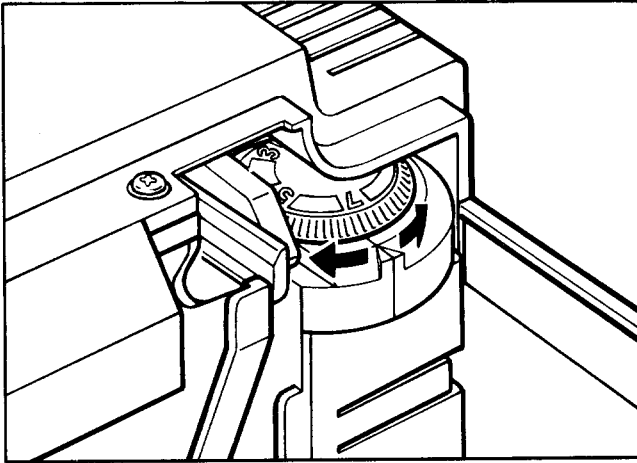

Fig 6-5
- To make the printing darker, turn the dial clockwise (Fig. 6-5) to a higher number.